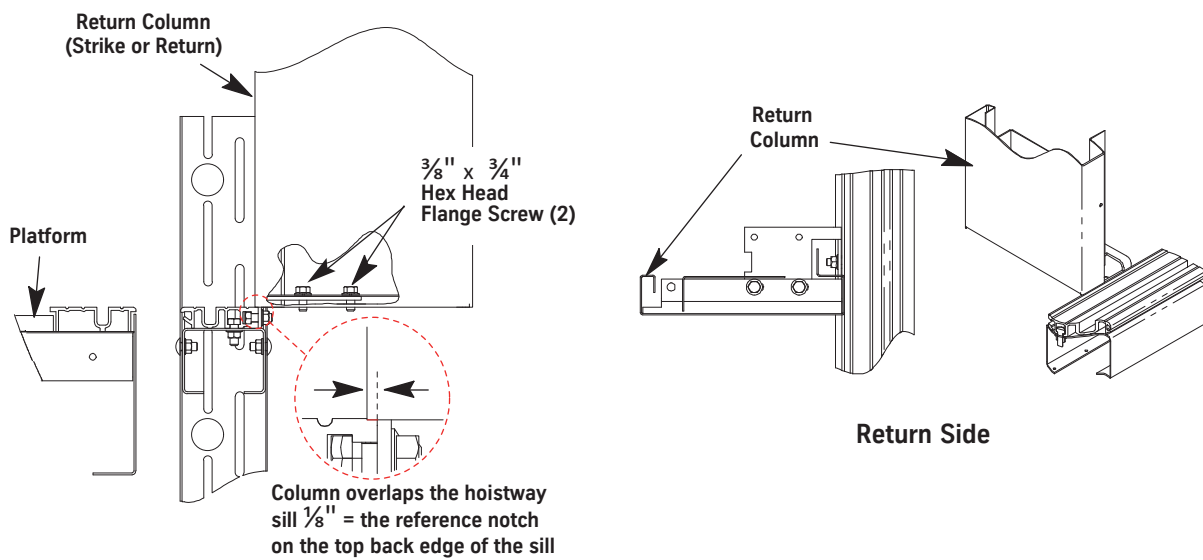

Figure 57 - Attach the Frame (standard sill shown)
2. Align the frame columns so that they overlap the hoistway sill $1/8"$ (the depth of the cutout on the top back edge of the hoistway sill). See Figure 57.